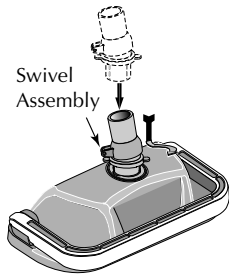

Figure 6
Step 6: Assemble cleaner (Figure 6)